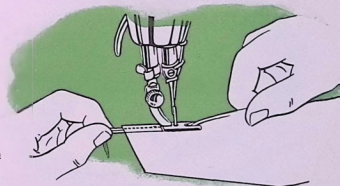

Fig. 37. Hemming Edge of Material and Pulling Back Threads While Sewing
4. Lower hemmer and commence to sew, slightly pulling threads back while sewing. Keep mouth of hemmer full to produce a smooth, even hem, as shown in Fig. 37.